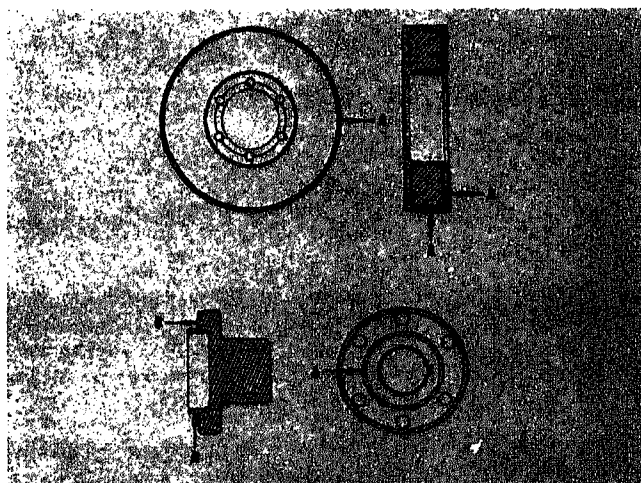

Fig. 14-1-52. Damper and flange eccentricity and wobble
1. Eccentricity of vibration damper mounting flange measured on the outside diameter of the pilot must not exceed 0.004 in. [0.1016 mm] total indicator reading, (A, Fig. 14-1-52).
2. Wobble in the vibration damper mounting flange must not exceed 0.003 in. [0.0762 mm] measured at 2 $\frac{3}{4}$ in. [69.8500 mm] radius (B, Fig. 14-1-52).